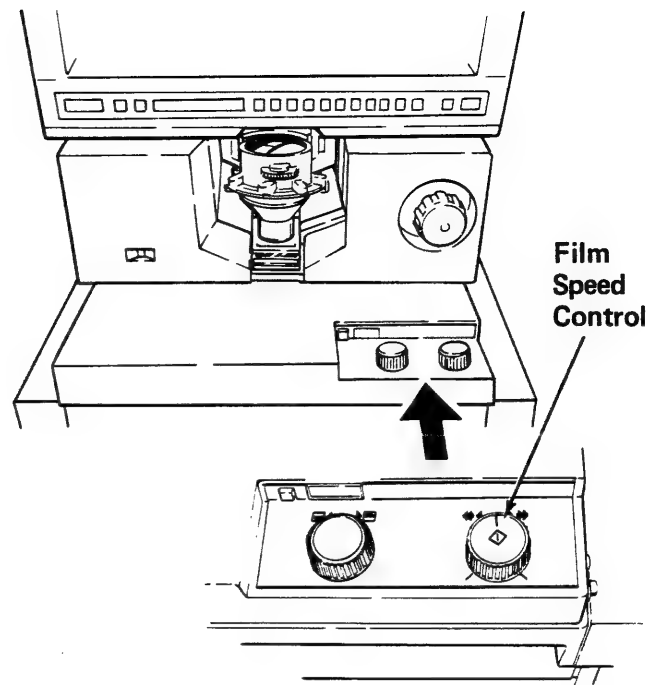

Figure 2-5A
1. Press the M-7530 Power Switch to "1" (ON). The Blower Motor (M5) should operate, the Brake Disk Solenoid (Y7) should activate releasing the Brake Disk, the Film Advance Motor (M2) should run, and the Film Chute solenoid (Y6) will activate pulling the Film in. Then, the Film Chute Solenoid (Y6) should deactivate pushing the Film Chute out, and the Brake Disk Solenoid (47) should deactivate stopping the Film Take Up Shaft.
3. Turn the Film Speed Control (Figure 2-5A) fully clockwise. The film should move quickly to the right as the Odometer continually displays an increasing number. Near the end of the film, the film should slow down and stop, and the Lower Glass Flat should clamp.